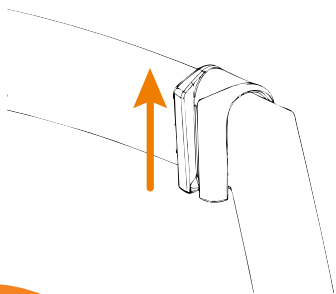

figure 5
3. Push from the bottom the frame clamp from the frame (Fig. 5).